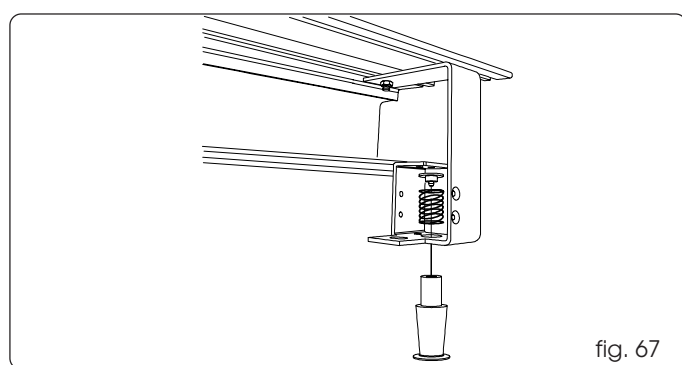

fig. 67
- Assemble the release knob on the side bracket as shown in fig. 67 and 68. Press the contact washer until it fits in with the release knob.